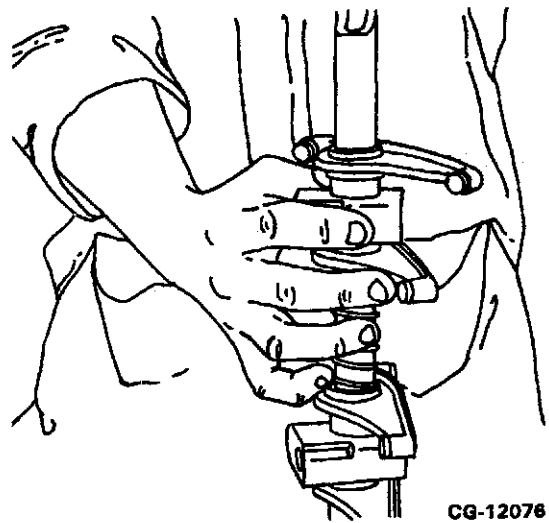

Figure 5.9. Assemble Rocker Arm Components with Shaft in Vertical Position
- Lubricate all rocker arm bushings with clean engine oil, install a retaining ring at one end of the shaft and assemble the components with the shaft in the vertical position. Refer to Figure 5.9.